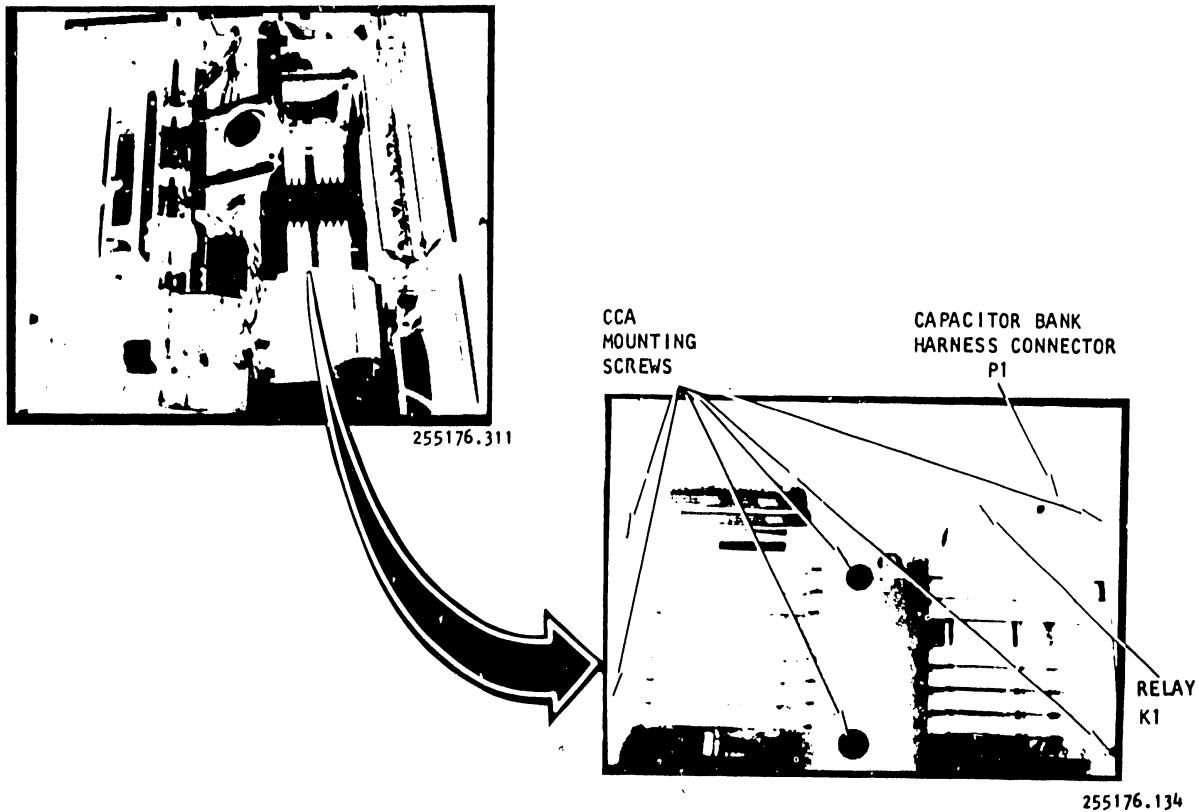

Figure 3-19. Mother Board CCA
3.4.9 Mother Board CCA Removal/Replacement (Figure 3-19)